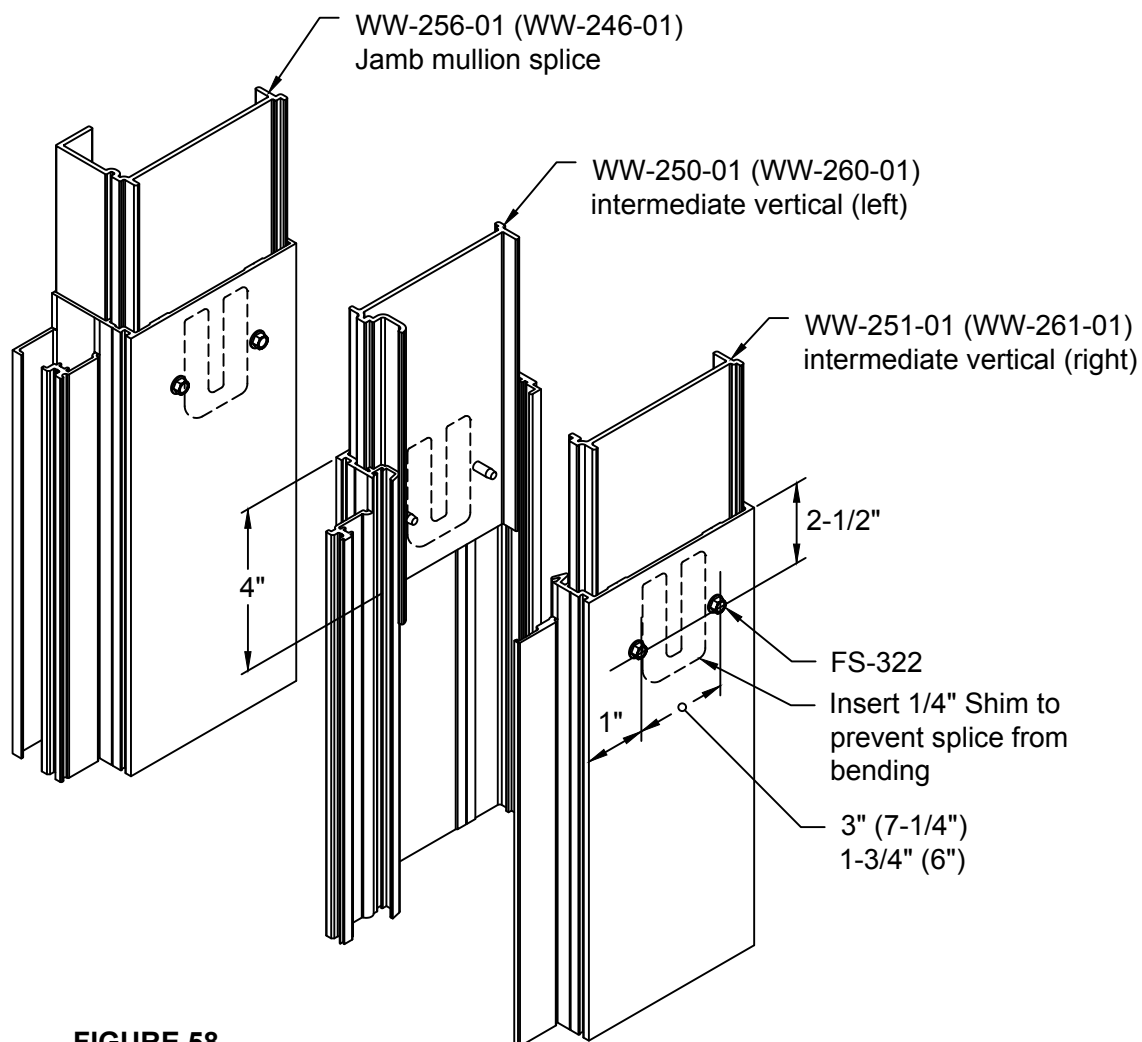

FIGURE 58
- 6.7 Install splices in top of lower mullion assemblies. Splices are 8" long and will be inserted into mullion 4" and attached using (2) FS-322 (#12-14 x 1" HWH Drill-Flex). **See FIGURE 58**